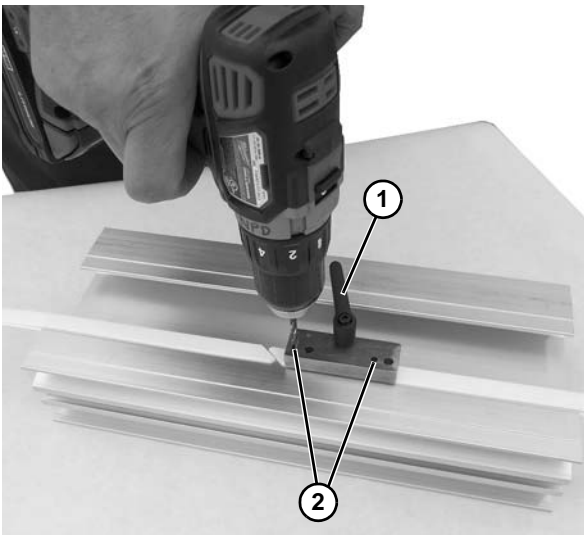

Figure 42
2. Using the wear strip replacement tool (**Figure 42, item 1**) drill two holes through the two small location holes (**Figure 42, item 2**) through the wear strip and frame using the #18 drill bit from the wear strip replacement kit.